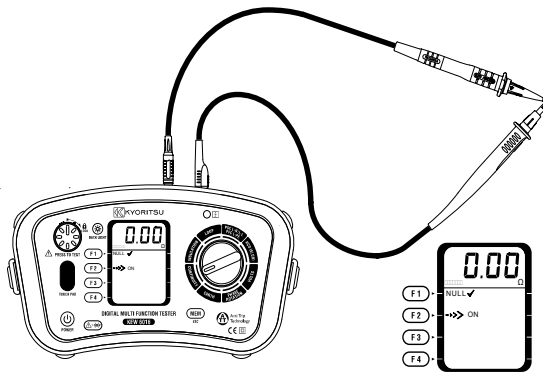

Fig.13
- 3 Connect the ends of the test leads firmly together (see Fig.13) and press and lock down the test button. The value of the lead resistance will be displayed.
- 5 Release the test button. Press the test button and ensure the display reads zero before proceeding. While using the Continuity null function, “NULL✓” is displayed on the LCD as indicated in Fig.13. The null value will be stored even if the instrument is powered off. This memorized null value can be cancelled by disconnecting the test leads and pushing the Continuity Null button (F1) with the test button pressed or locked. When this is cancelled you will know because NULL OFF is displayed on the LCD.